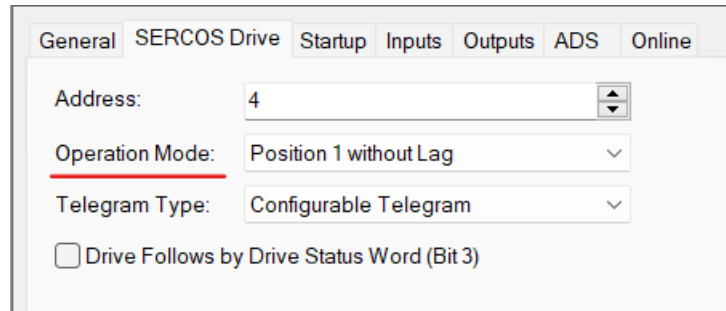

Figure 11: SERCOS Drive Operation Mode
3. Change the Operation Mode of the drives in the **SERCOS Drive** tab to **Position 1 without Lag** (Figure 11).